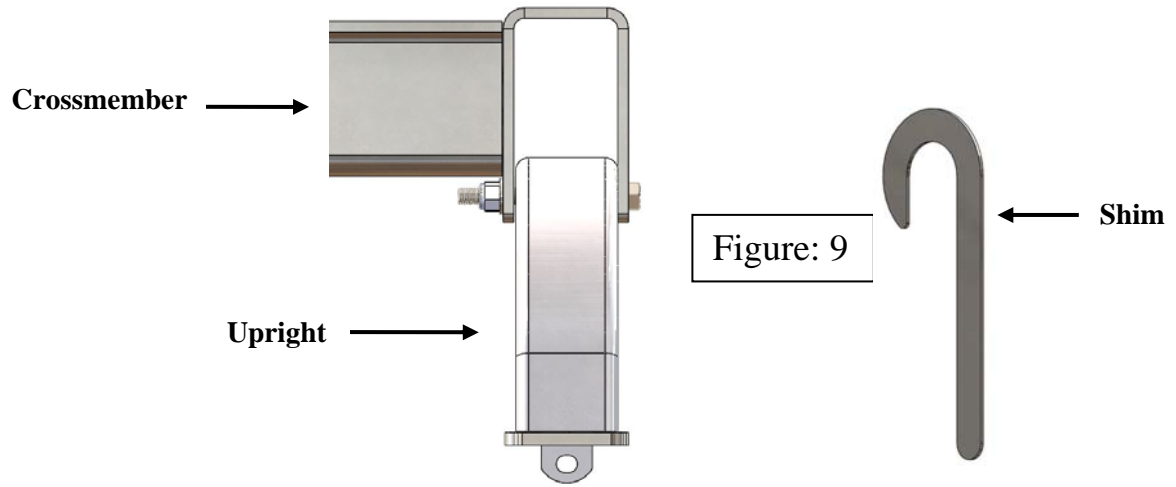

Figure: 9
10. Check each base rail hitch pin for freedom of movement before tightening the 5/8" base rail bolts. Adjust uprights, if necessary, by placing shim 31582 or 30243 between the upright and the cross member to obtain free pin movement. See Figure 9. Shims 31582 & 30243 sold separately